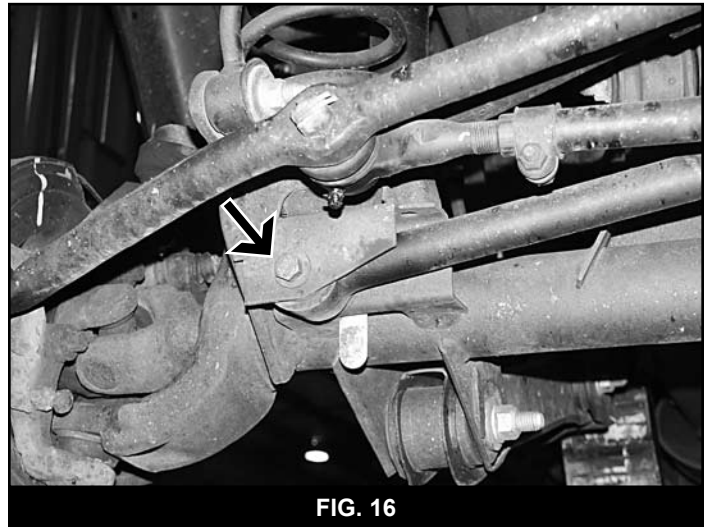

FIG. 16
36. Remove track bar by disconnecting at axle (Fig 16 - retain hardware) and frame mount by removing cotter pin and nut. Use a pickle fork to dislodge the track bar from the frame mount. Disconnect the track bar from the axle. Retain all hardware.